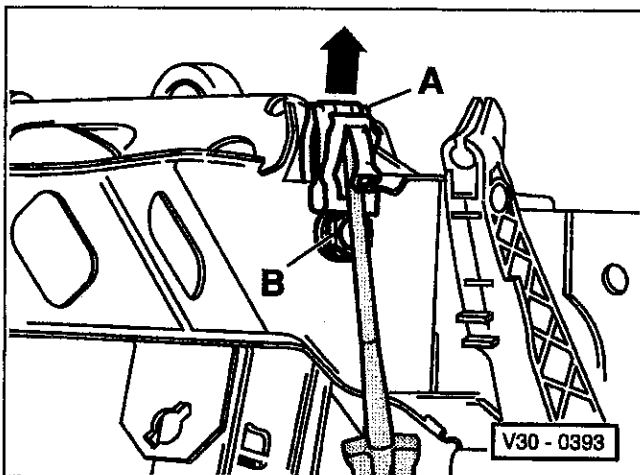

Fig. 6. Brake pedal pivot pin retaining clip being removed. Pry up tab (A), then press off clip (arrow).
6. On brake pedal side, remove retaining clip from pivot pin. See Fig. 6.
- Before installing securing clip on brake pedal side, position pivot pin so that flats (B in Fig. 6) are vertical.